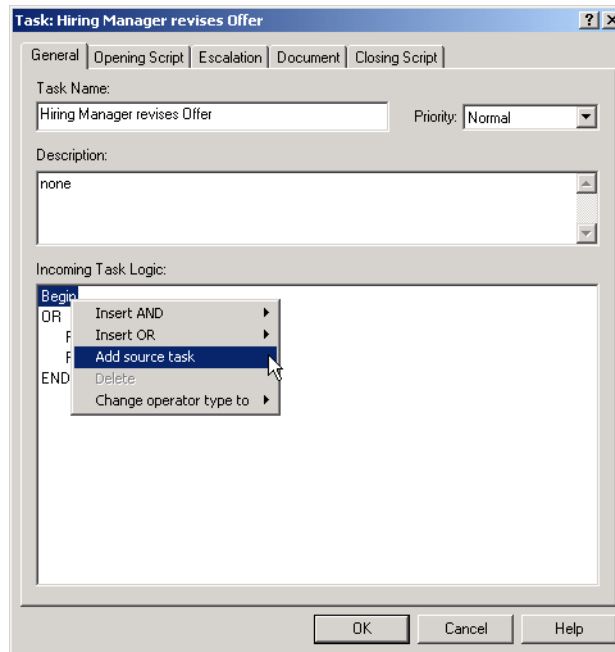

Figure 30-8. New Add Source task being inserted into Manager Review task.
- ❶ Right-click on the Begin statement, and select **Add Source Task** from the drop-down menu (see Figure 30-8, below).